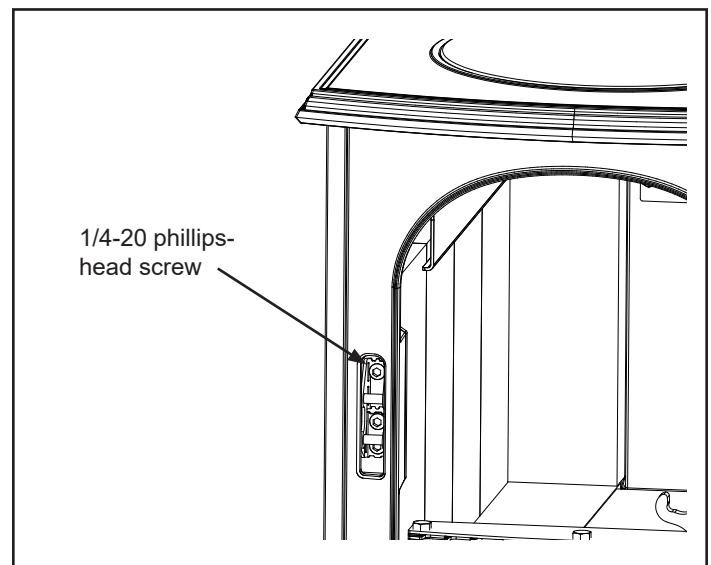

Figure 3.3 - Tighten 1/4-20 phillips-head screw
2. Tighten the top 1/4-20 phillips-head screw, Figure 3.3.